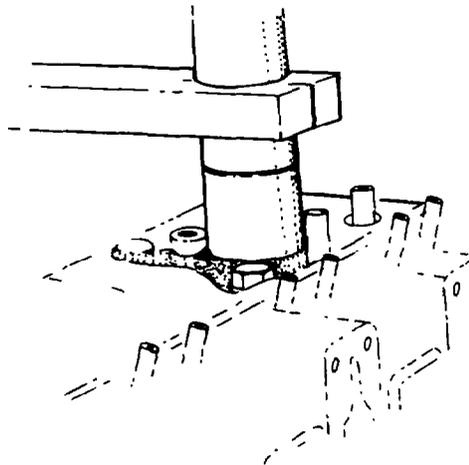

Fig. 18 — Removing Valve Guides
b. Press out the old valve guides from the top of the head (see fig. 18).